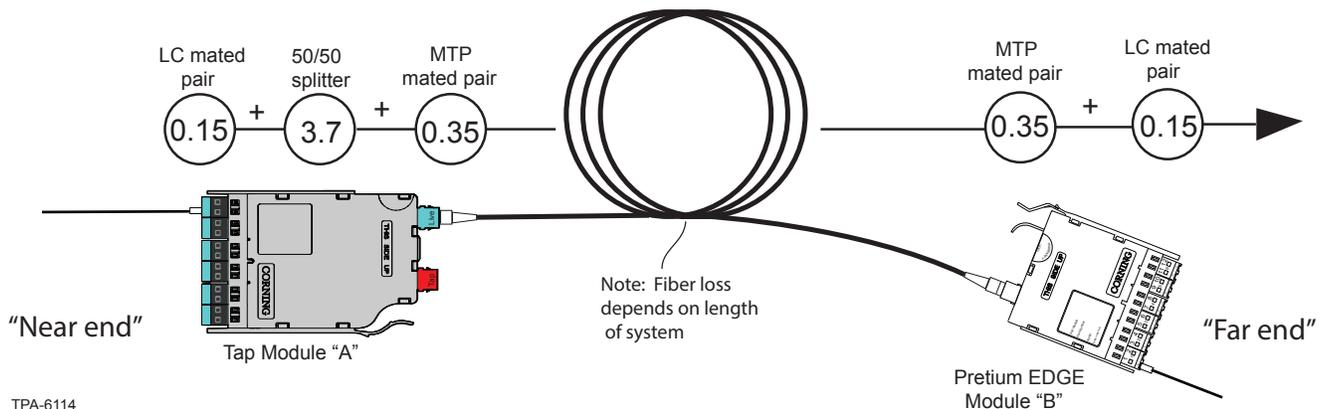
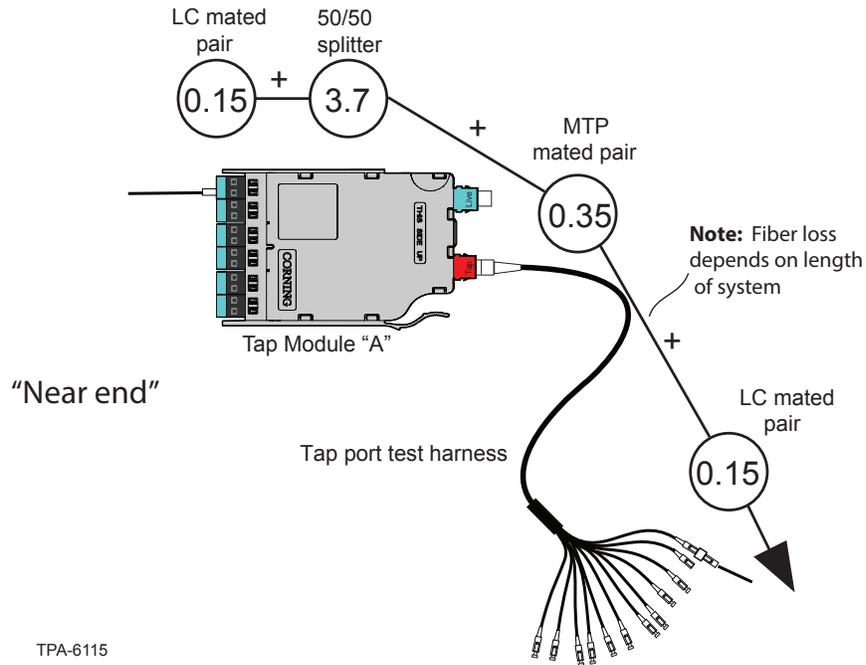

Figure 4
Figure 5
**5.1** This section describes how to calculate the loss budgets of a system using an EDGE™ Tap Module. Note that you will need to calculate one loss budget for the LIVE system (Figure 4) and two different loss budgets for the Tap output (Figure 5 and 6).
**5.2** To calculate the system losses, add the loss values of the components as illustrated in the examples shown in Figures 4, 5, and 6.